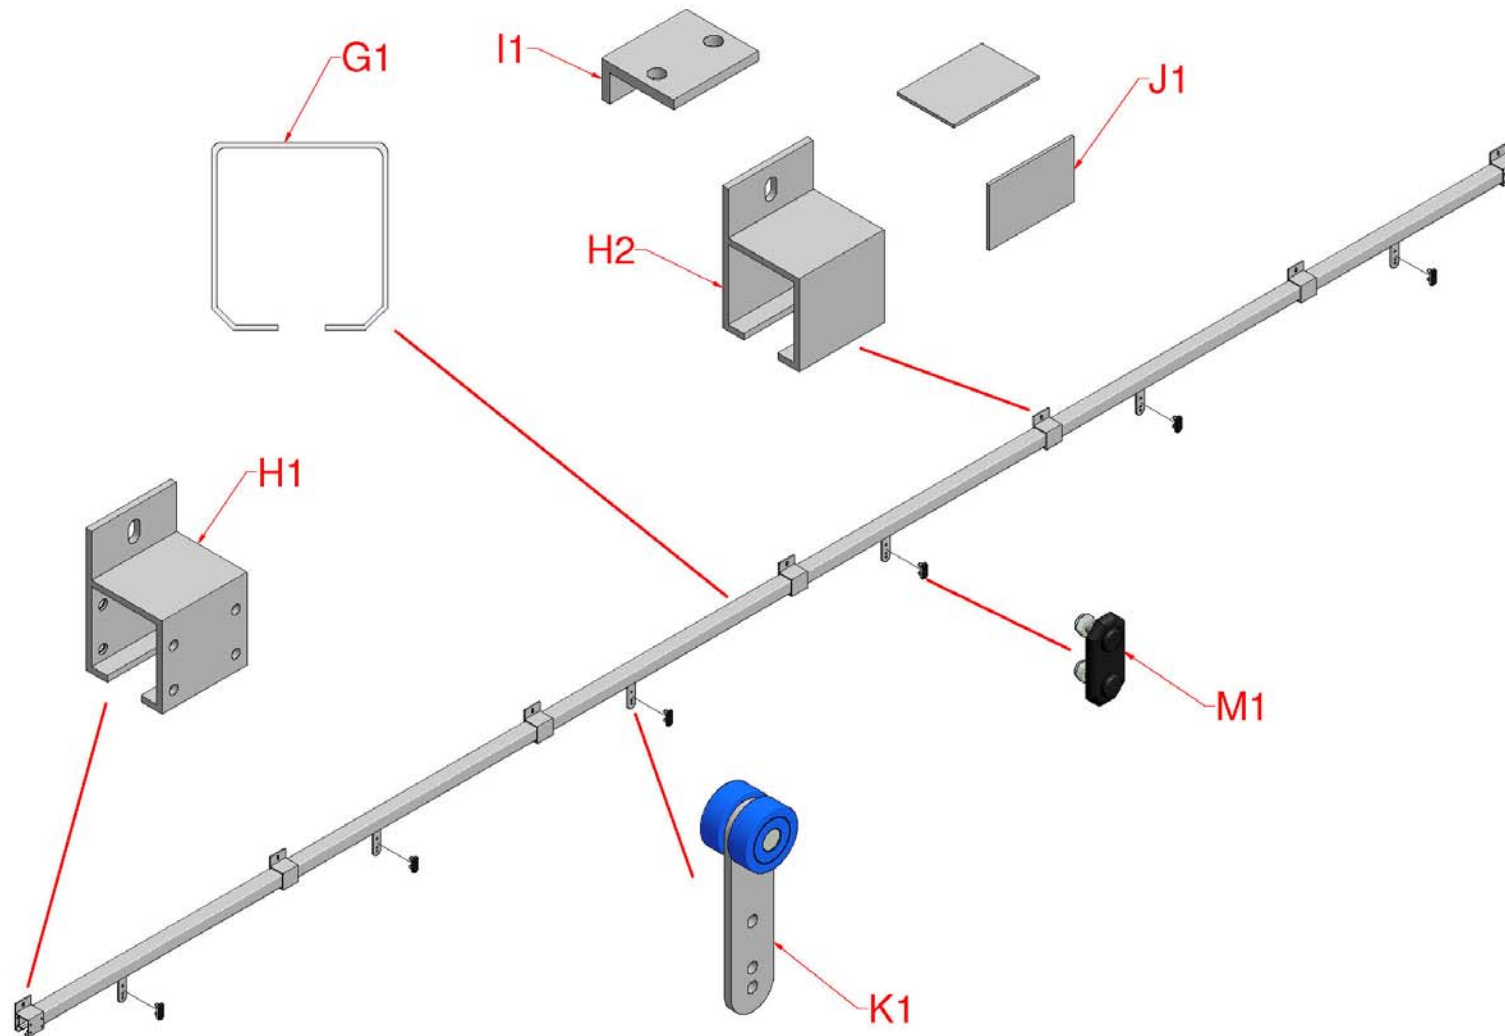

Figure 1, System Overview and Individual Components
1. Check the contents of your Bayscreen Tracking against the parts list using Figure 1. When initially installing the Bayscreen do not fully tension the sheet as indicated in Section 8 of the Bayscreen Installation Instructions.